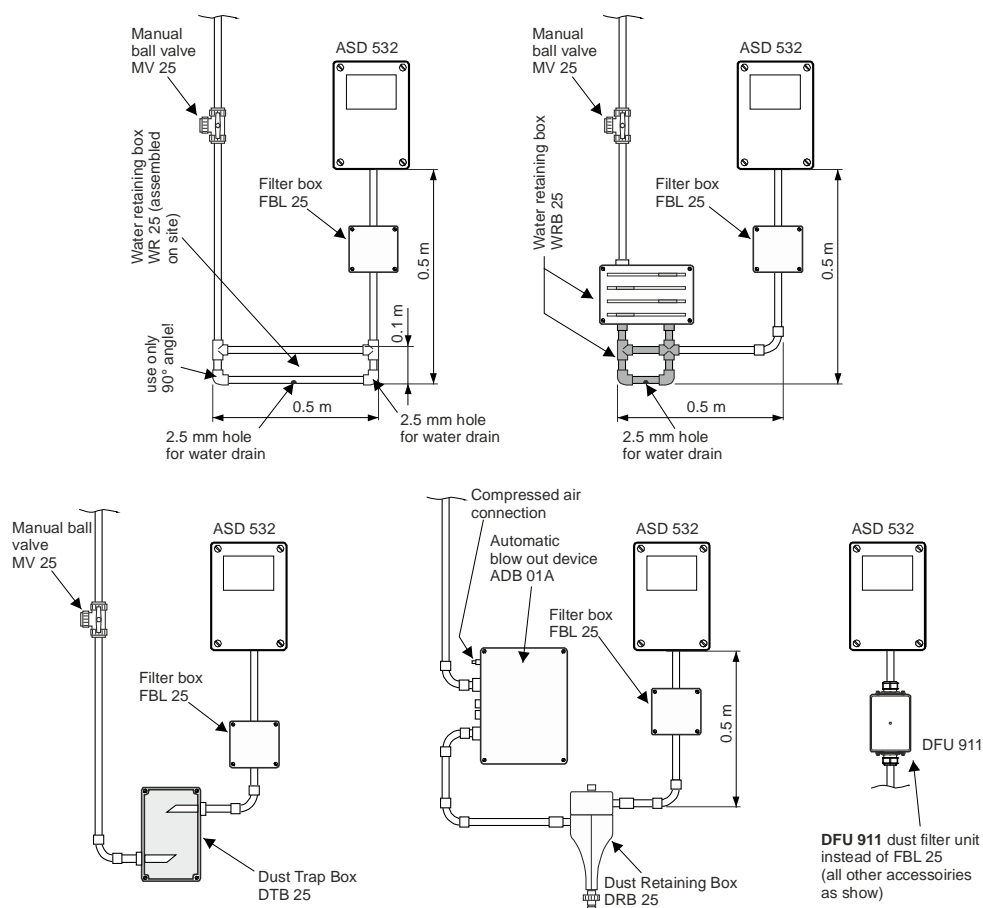

Fig. 16 Mounting accessory parts
- The mounting positions for the water retaining box, dirt trap box and dust retaining box must be observed as indicated in **Fig. 16**.